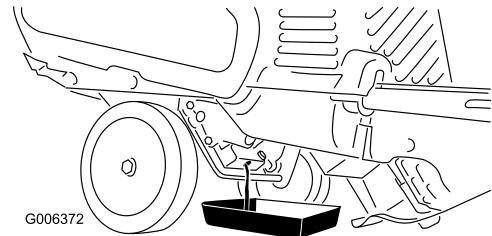

Figure 29
3. Place an oil drain pan under the oil drain plug, remove the oil drain plug, and tip the machine backward and drain the used oil in the oil drain pan Figure 29.